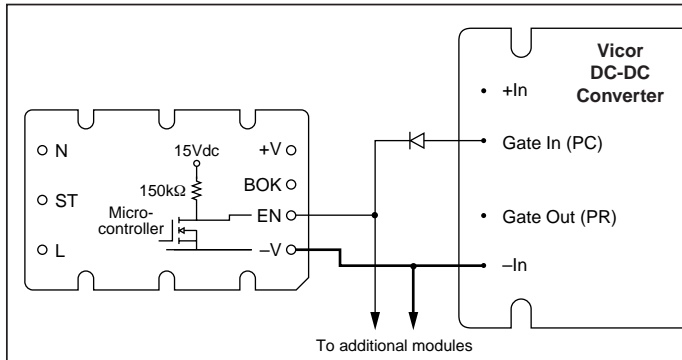

Figure 9—Enable (EN) function; See Fig.8 for details
Enable (EN) Pin. (See Fig. 9). The Enable pin must be connected to the Gate-In or PC pin of all converter modules to disable the converters during power-up. Otherwise, the converters would attempt to start while the holdup capacitors were being charged through an unbypassed thermistor, preventing the bus voltage from reaching the thermistor bypass threshold thus disabling the power supply. The Enable output (the drain of an N channel MOSFET) is internally pulled up to 15V through a 150k Ω resistor.